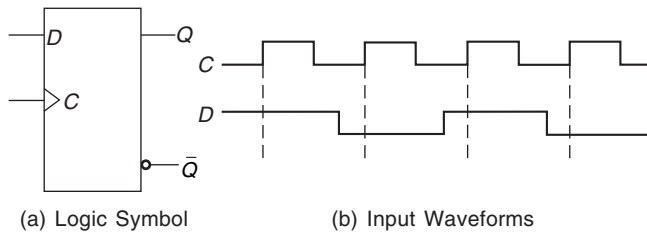

Fig. 12.65
32. Given the waveforms in Fig. 12.65 for the D input and the clock, determine the Q output waveform if the flip-flop starts out Reset.